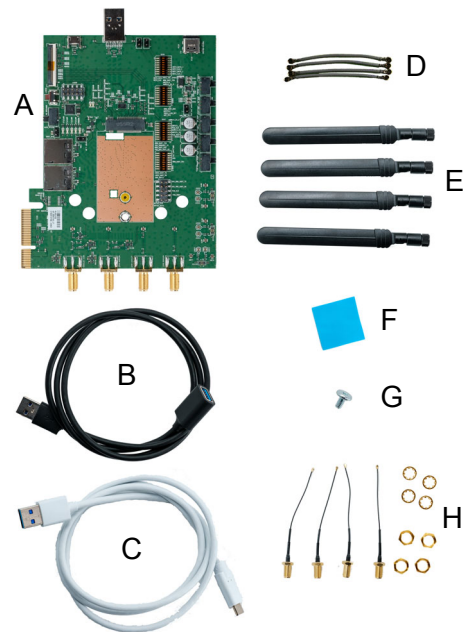

Figure 4: 5G Modem Card Adapter Board Kit
The 5G Modem Card Adapter Board (Figure 4 A) will be delivered together with
- 1 USB 3.0 cable (Figure 4 B)
- 1 USB cable with USB-C connector (Figure 4 C)
- 4 MHF4 type antenna cables (Figure 4 D)
- 4 UMTS/LTE/NR antennas (Figure 4 E)
- 1 Thermal Pad (Figure 4 F)
- 1 Screw to fix M.2 Card (Figure 4 G)
- 4 MHF4 to SMA antenna cables including washers and nuts (Figure 4 H)